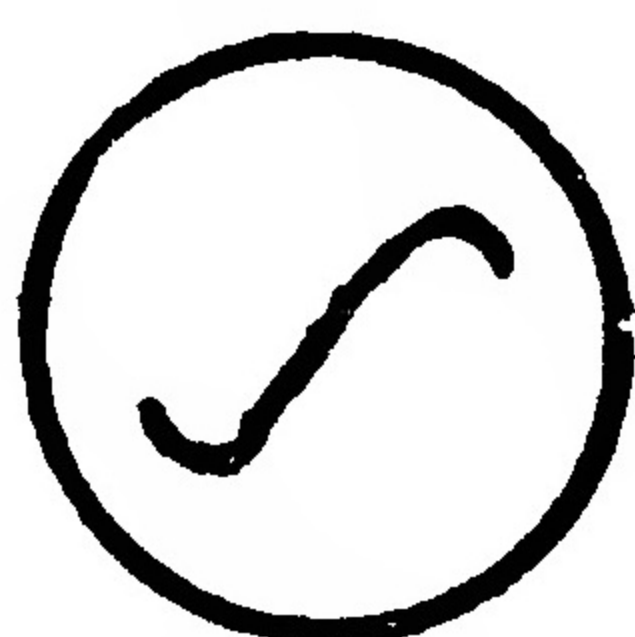

FIG. 1.
- Connect (FM) I. F. generator to the second 6BA6 I. F. amp. grid, (lug No. 1) through a .01 uf mica dummy. Connect oscilloscope across volume control. With the I. F. generator tuned to 10.7 mc with 150 Kc deviation, and the same audio voltage used as horizontal sweep on the scope that is used to modulate the generator, adjust the ratio detector transformer slugs A7-A8 for the characteristic "S" curve (See Fig. 1), with maximum vertical height on the scope. After this adjustment the top slug of the ratio detector should not be moved during the rest of the alignment.